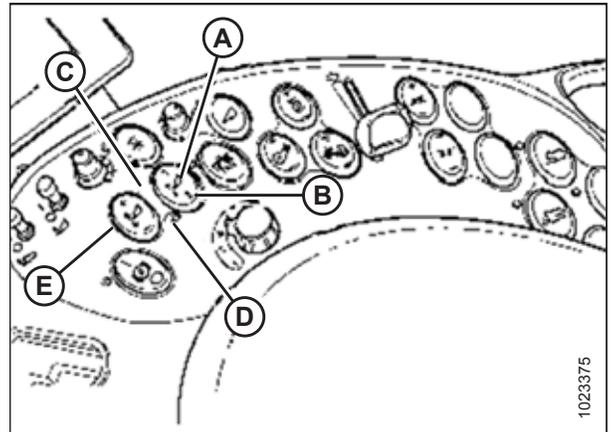

Figure 6.45: Case Combine Controls
You can adjust these set points by using FINE ADJUST switch (E) in Figure 6.45, page 93.